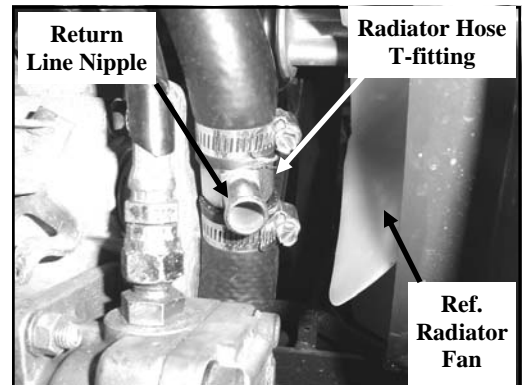

FIG. 1
1. Drain the cooling system. For the return line from the heater, cut the lower radiator hose and install the supplied T-fitting with the large hose clamps in the location shown in FIG. 1.